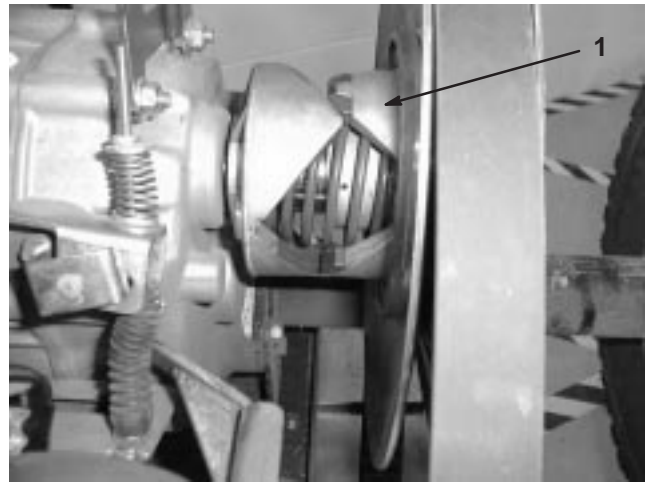

Figure 17
3. Ensure that the transaxle is locked in neutral by rotating the secondary clutch (Fig. 17). The tires should not rotate. If tire rotation does occur, repeat step 2 until the tires no longer rotate.